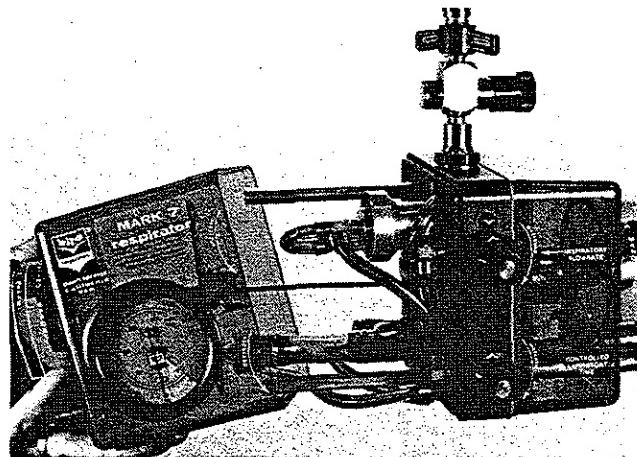

FIGURE 22
1. Remove (2) socket screws and washers using 3/16" allen wrench and carefully pull Ambient Compartment off until the hand timing rod clears the magnet (Fig. 22).